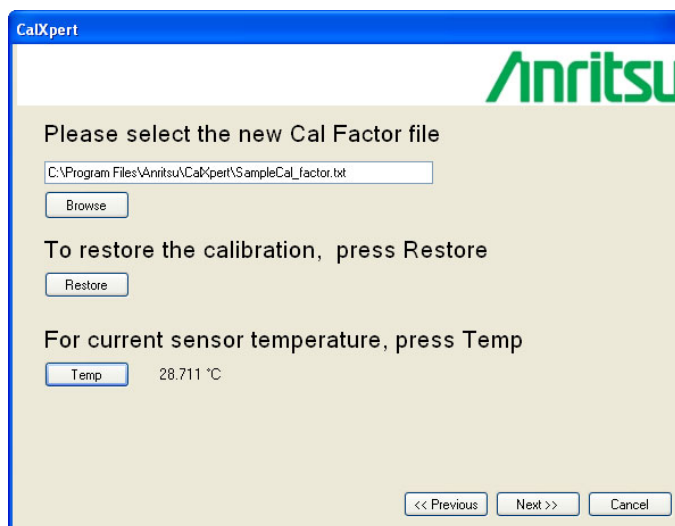

Figure 3-4. MA24106A CalXpert File Selection, Restore Calibration, and Temperature Check
- 9. To restore a previous calibration, click Restore (Figure 3-4) and select the appropriate HEX file, then click the Load button as shown below.